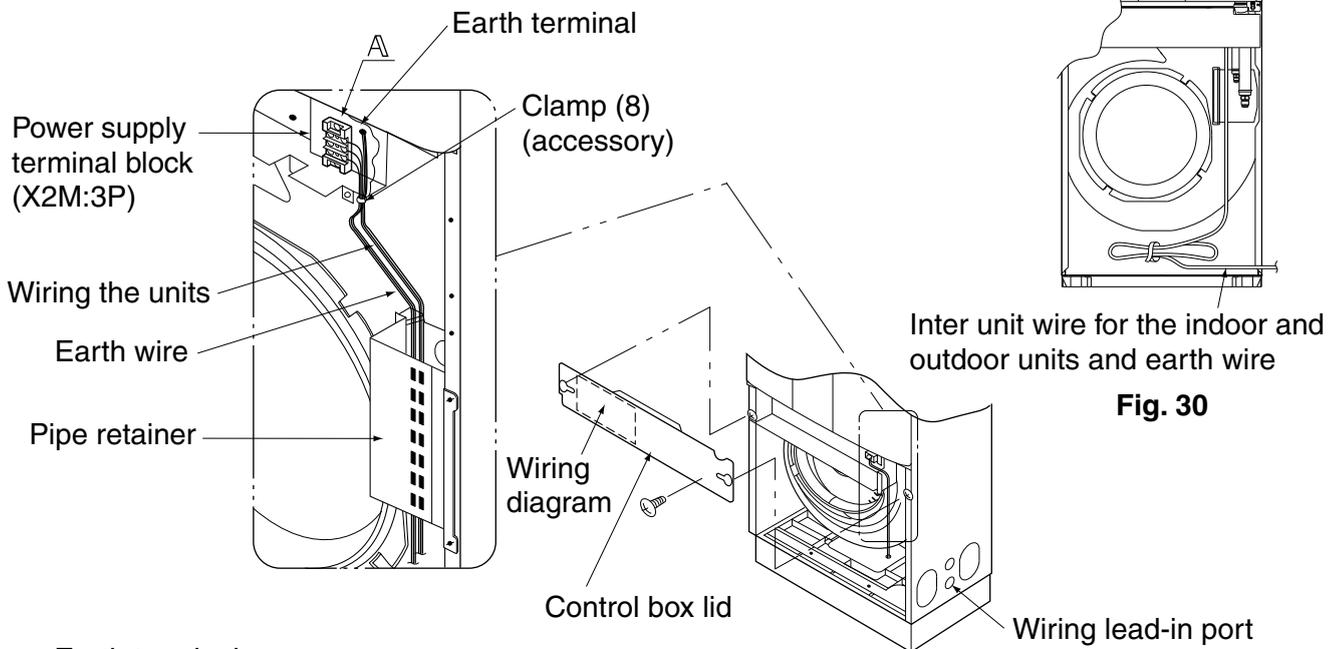

Fig. 30
- Pass the interconnecting wires and the earth wires inside of the pipe pressing plate. Wires connecting the units and the earth wire to the pipe retainer. Keep the extra wires neatly at a location shown in the **Fig. 30**. The wires may come in contact with other parts such as the fan, and the indoor unit may be damaged.